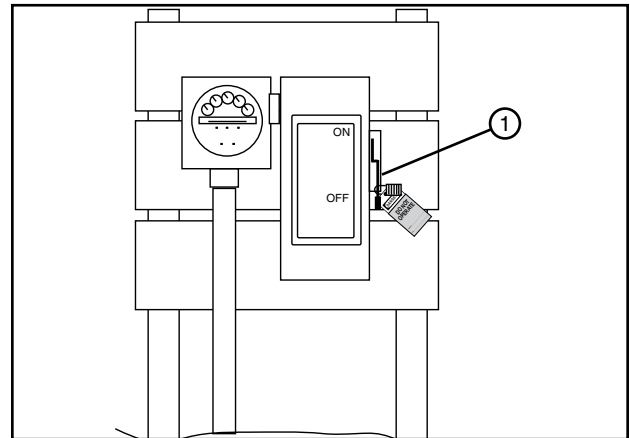

Figure 73-1 1. Public Power Service Disconnect
1. SHUT OFF and LOCK the public power service disconnect to the irrigation machine. See Figure 73-1.
FILL OUT the blue (OSHA safety color code) tag and attach to the disconnect after locking. See Figure 73-1.